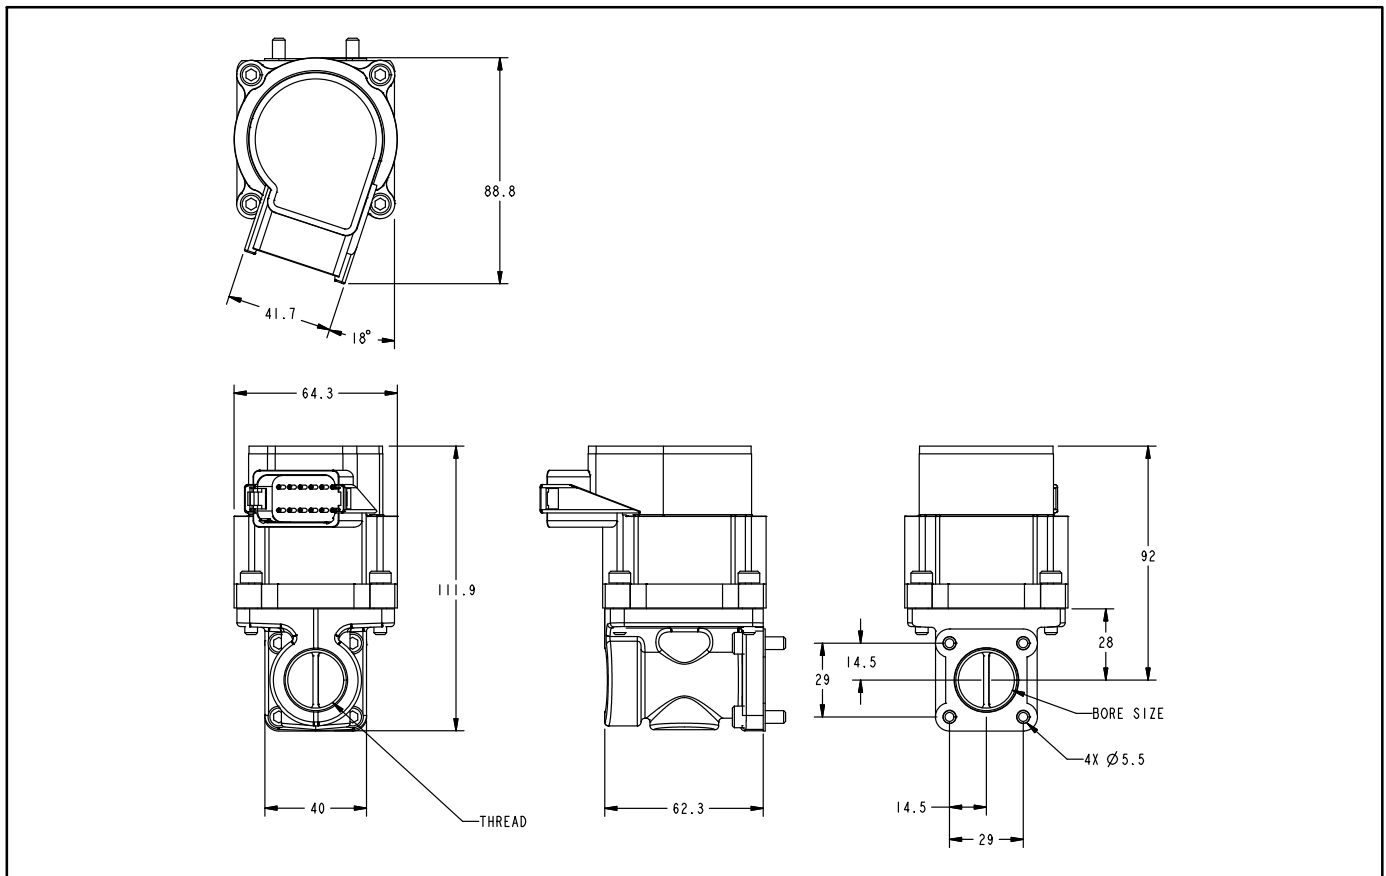

FIGURE 1. FUEL CONTROL VALVE
5. Remove the existing fuel control valve and replace it with the one included in this kit (see Figure 1).